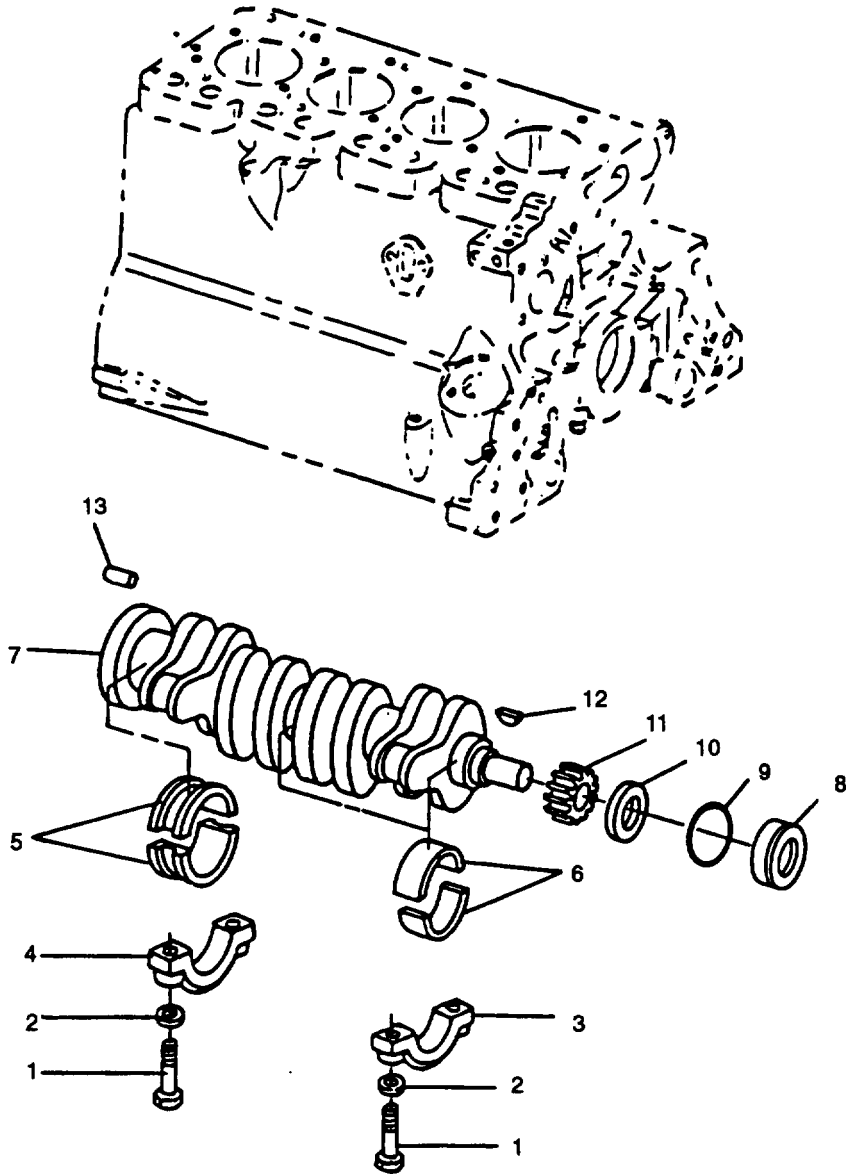

FIGURE 3-118. Crankshaft and Main Bearings
- d. If sleeve bearings (4 and 12) were removed, use an arbor press, driver (JD-252), and handle (10914188) to install sleeve bearing (4) in idler gear (3) and sleeve bearing (12) in idler gear (11).
- e. Install lower idler gear (11), thrust washer (10), and nut (8).
- f. Time camshaft and install upper idler gear (3), thrust washer (2), and capscrew (1), refer to paragraph 3-40.3.
- g. Install dirt deflector (10, FIGURE 3-118), new preformed packing (9), and crankshaft sleeve bearing (8).
- h. Check main bearing caps (3 and 4, FIGURE 3-118) for arrows (cast in bearing cap) and numbers stamped on cap and oil pan rail. Arrow points toward camshaft side of engine. If there are no numbers, stamp corresponding numbers on cap and oil pan rail. This will assure correct placement location of main bearing caps during reassembly.
- i. Remove capscrews (1) and washers (2) securing main bearing caps (3 and 4); remove main bearing caps.
- (1) Place a strip of bearing gage (PLASTIGAGEPR1) in the center of the main bearing cap about three fourths of width of bearing.
- (2) Use oil on bearing gage to prevent smearing.
- (3) Install cap and tighten capscrews (1) to 85 ft-lbs (115 Nm).
- (4) Remove cap and compare width of bearing gage with scale provided, to determine clearance. Maximum permissible clearance is 0.006 inch (0.15 mm).
- a. Install gear (11, FIGURE 3-118) on crankshaft as follows:
- (1) Heat gear (11), in oil, to 360°F (182°C).
- (2) Install key (12) in crankshaft (7) slot, and using driver (JDH-7), drive heated gear (11) onto crankshaft.
- b. Install main bearing (6) inserts. Make sure that tang on inserts is engaged with slot in engine block and main bearing caps. Also make sure that oil holes line up with oil passages in block.
- c. Install main thrust bearing (5) in rear web of engine block